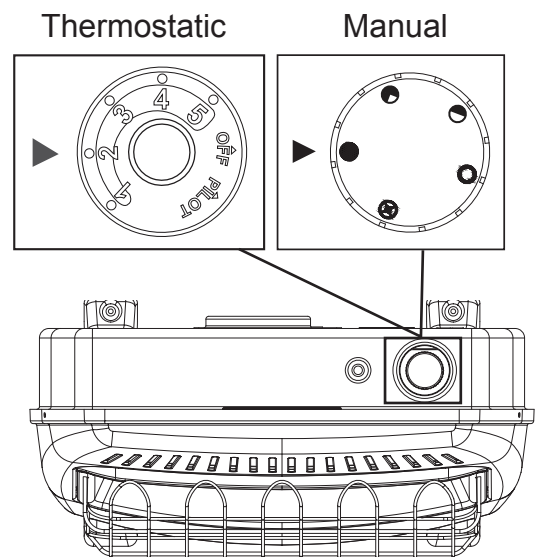

Fig. 25 - Control Knob Position
The control knob can be set to any comfort level between "HIGH" (5) and "LOW" (1) (See Fig. 25). The thermostat used on this heater senses the room temperature. At times the room may exceed the set temperature. When this begins to happen, the burner will begin to modulate the BtuH down until the unit meets the desired heat setting and shuts off. When the room temperature drops below the desired heat setting, the burner will cycle back on. The unit may start at a lower BtuH rate if the room is still warm.
Manual valves remain burning at the desired setting until manually turned to OFF "O" (See Fig. 25).